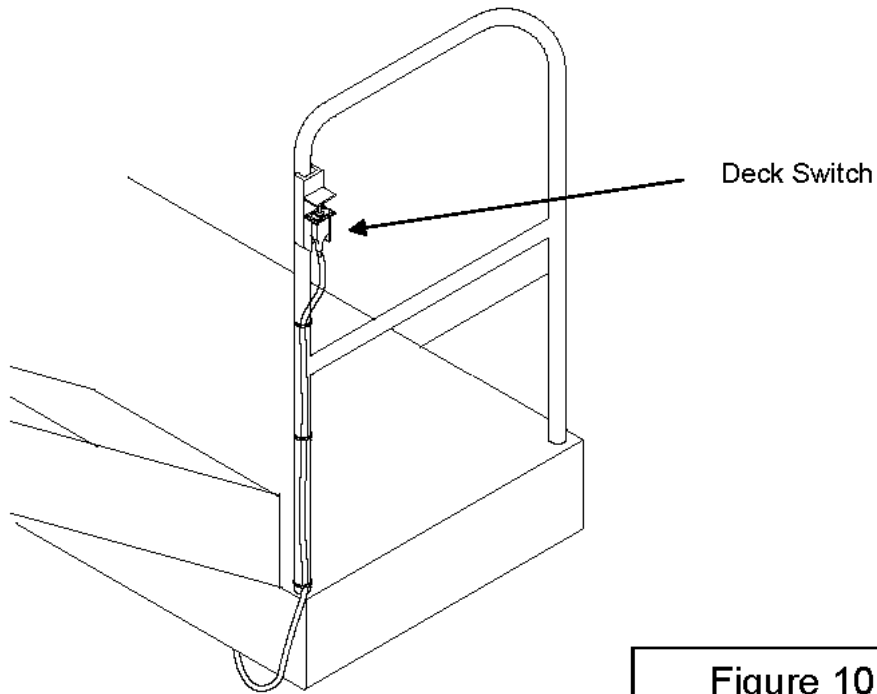

Figure 10
7. Mount switch brackets (7). Mount one on upper rail upright (figure 10). Mount the other on the lower bumper plate near the batter box. Mount in protected locations where they will not be inadvertently actuated.